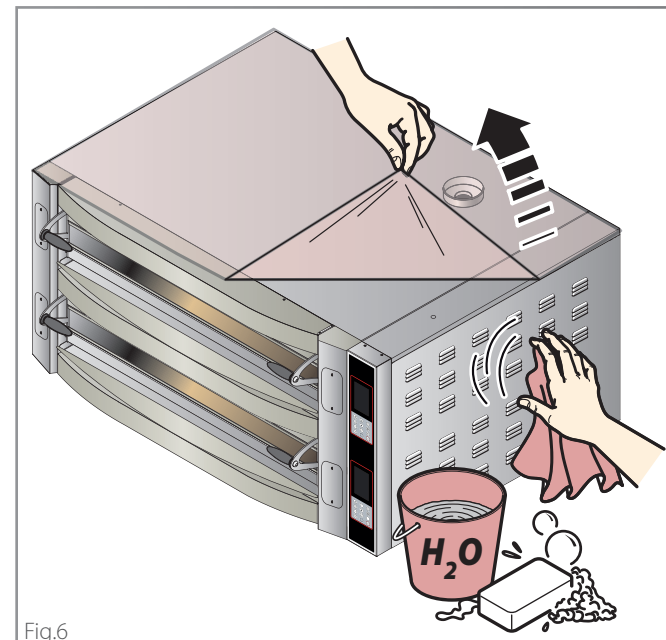

Fig.6
► **Fig.6** Carefully remove the protective film.